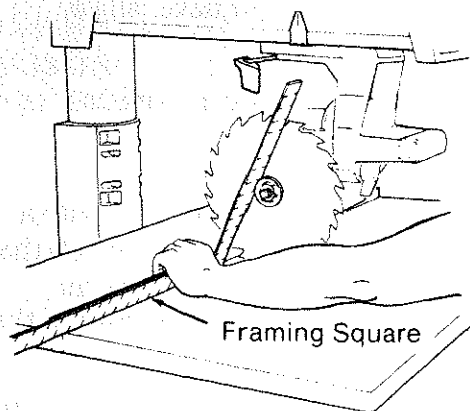

Fig. 111 - Squaring Blade to Fence
1. Put the *radial arm* in the 0° miter position with the *blade* just in front of the *fence*. (Figure 111)
3. Place the framing square with the long edge against **both** the *fence* and the *table*, and the short edge against the *blade* just above the *arbor shaft*. Make sure that the edge of the square is on the *blade* and not on the set of a tooth. (Figure 111)